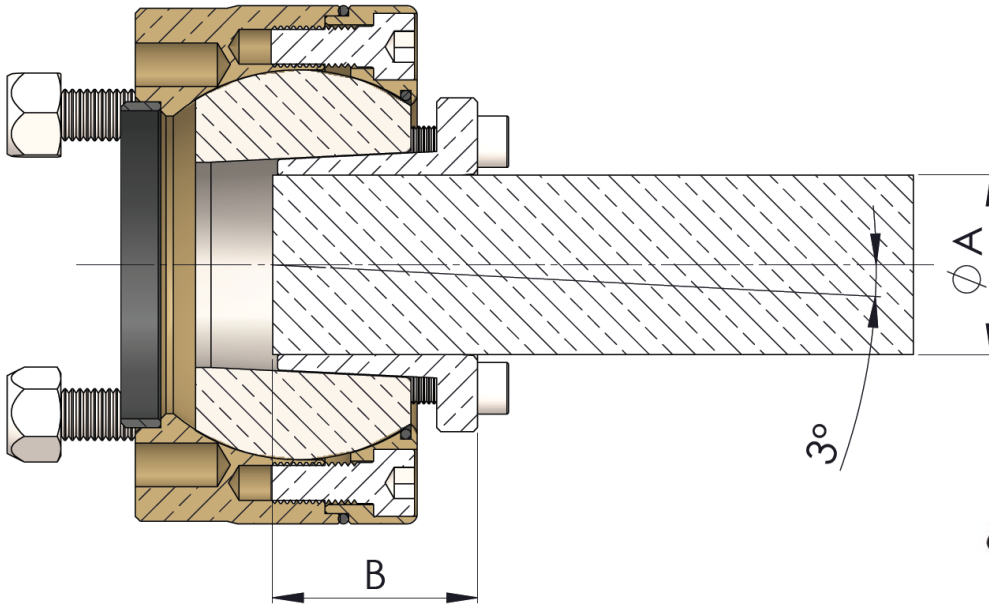

Fig 1. SigmaDrive angle drawing
- Insert the M10 high tensile studs (11) into the corresponding tapped holes to match the gearbox output flange. Lock the studs using the two narrow M10 lock nuts (14) and the loctite **638** supplied.
- Place the SigmaDrive onto the gearbox flange. Then fit the Nordlock washers (12) and the M10 Nyloc nuts (13) to the M10 high tensile studs (11) and tighten firmly to a torque of **61Nm** in a crossed sequence.
- Please apply a light oil film on the surface of the taper lock making sure that the surface between the taper and central sphere (3) is well lubricated. Use WD-40 or hydraulic oil, this will aid removal. Please do not use oil with molybdenum disulfide, high pressure additives or graphite grease on either the shaft or taper lock. These substances notably reduce the friction coefficient for the clamp unit.**
- Carefully slide the clamping unit (7) onto the propeller shaft to the minimum depth indicated in table 2 (See Fig 1 for diagram). Maximum shaft insertion depth is 60mm. Insert the clamping unit into the central sphere and tighten the M8 taper locking bolts (7) gently using an allen key in a crossed sequence (see fig 1).